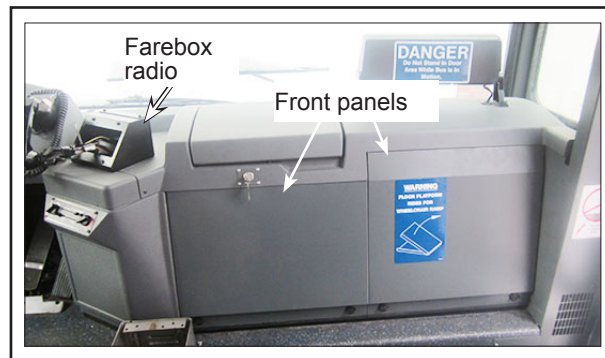

Figure 1 - Figure 1 - Right Side of the Dash
- 1.2. Remove the two front panels. See Figure 1.